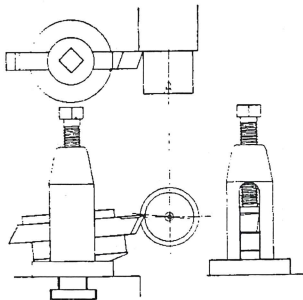

Fig. 4—Cutting Mild Steel or Cast Iron
**ANGLE OF TOOL TO WORK.** The angle of the cutting tool to the work varies according to the hardness of the metal being cut. The accompanying drawings (Figs. 4 to 6) show in general the proper angles to be used for the different classes of metals. Refer to these drawings before taking a cut until you are sure you know the proper angle for each metal.